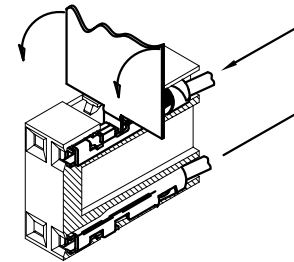

FIGURE 2
4. TO REMOVE TERMINAL; PUSH TERMINAL FORWARD, LIFT LATCH WITH HAND TOOL AS SHOWN IN FIGURES 2 & 3. DAMAGE TO LATCH MAY OCCUR IF LIFTED MORE THAN A 25° ANGLE TO THE TOP OF HOUSING.